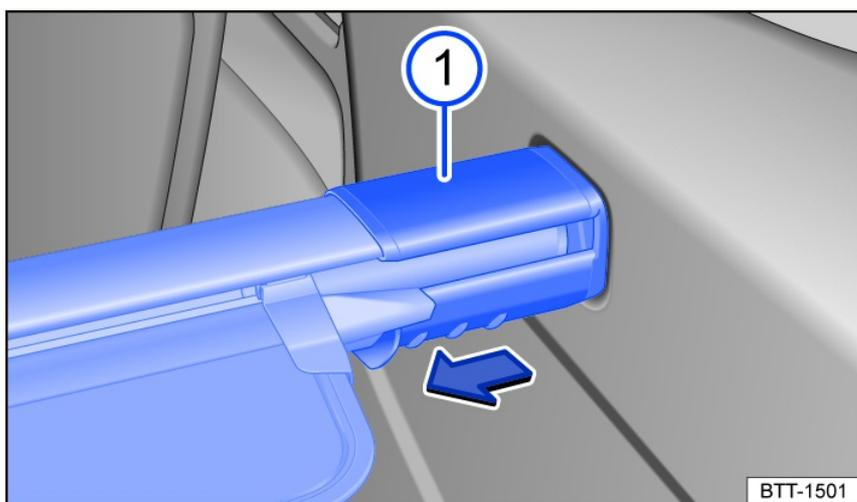

Fig. 150 In the trunk: removing the trunk cover.
- Press the retainer on the trunk cover fig. 150 ① in the direction of the arrow and hold it in place.
- Remove the luggage compartment cover upward and release the retainer fig. 150 ①.
- Guide the retainer fig. 150 ① into the mount on the side trim panel.